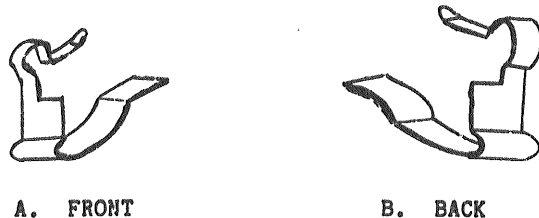

Figure 6-8. Carriage Spring Identification
- f. Hold the head carriage firmly with one hand. Grasp the "front" carriage spring (see Figure 6-8) with tweezers.
- g. Grasp the "back" carriage spring (see Figure 6-8) with tweezers and position it below the spring channel near the rear of the carriage. With the spring clipped over the lead screw, pull the spring up through the groove of the channel (see Figure 6-9a). Then, slide the spring over the lip of the carriage, locking it in place (see Figure 6-9b).